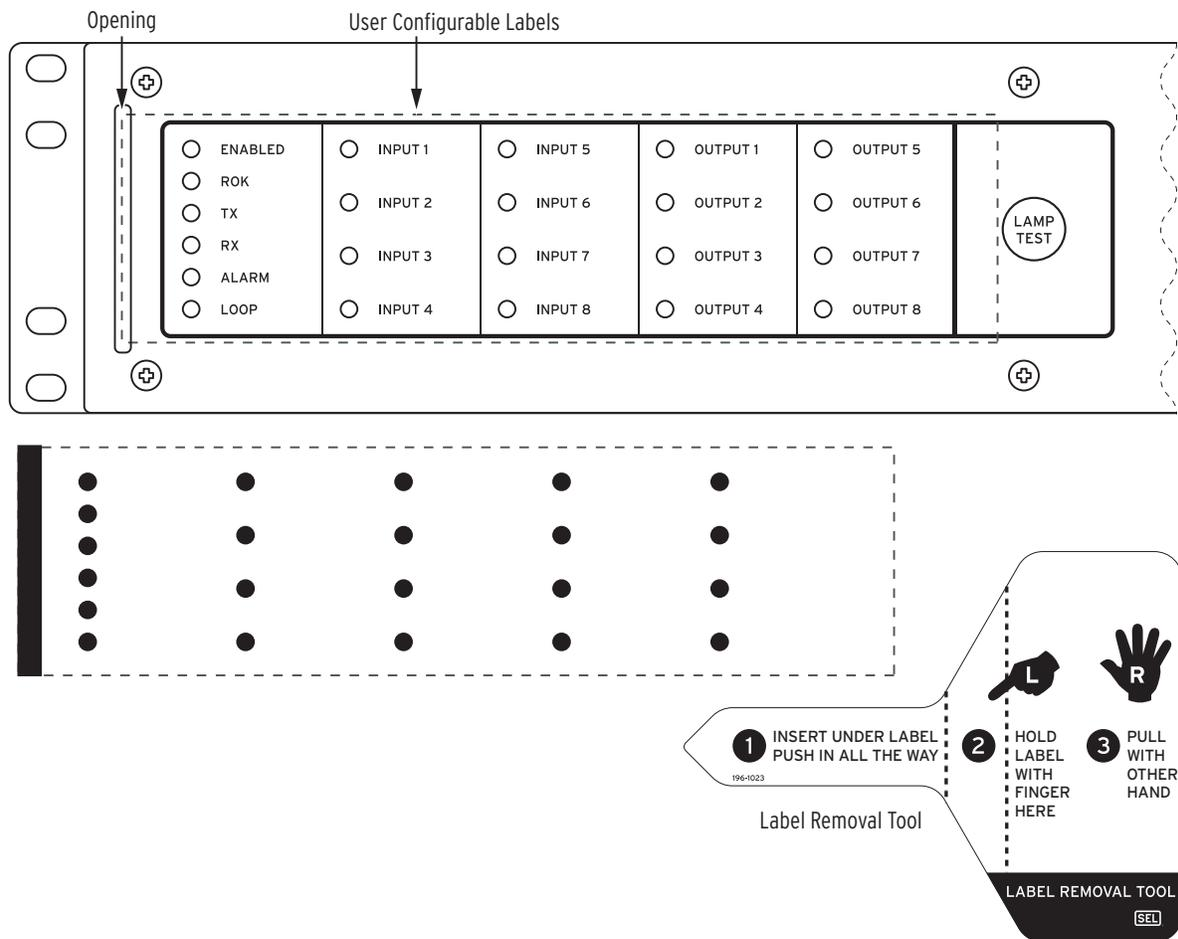

Figure 1 Blank Slide-In Label Set and Label Removal Tool
The blank slide-in label set, shown in *Figure 1*, is included with the SEL-2595.
Use the Label Removal Tool (shown in *Figure 1*) and the following procedure to remove slide-in labels from the front-panel pocket.
- Step 2. Slide the tip of the tool under the label at the label pocket opening (see *Figure 1* for opening locations).